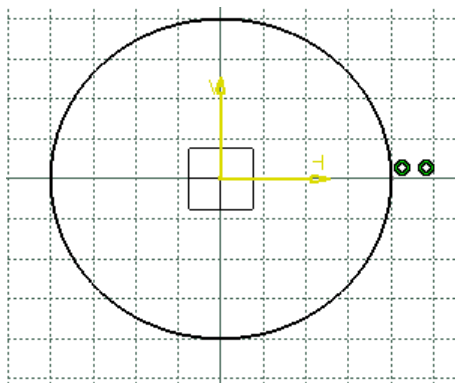

Figure 3-62 The sketch after drawing the first circle
3. Move the cursor horizontally toward the right and click when the **R** edit box in the **Sketch tools** toolbar displays **40**; the circle is drawn, as shown in Figure 3-62.